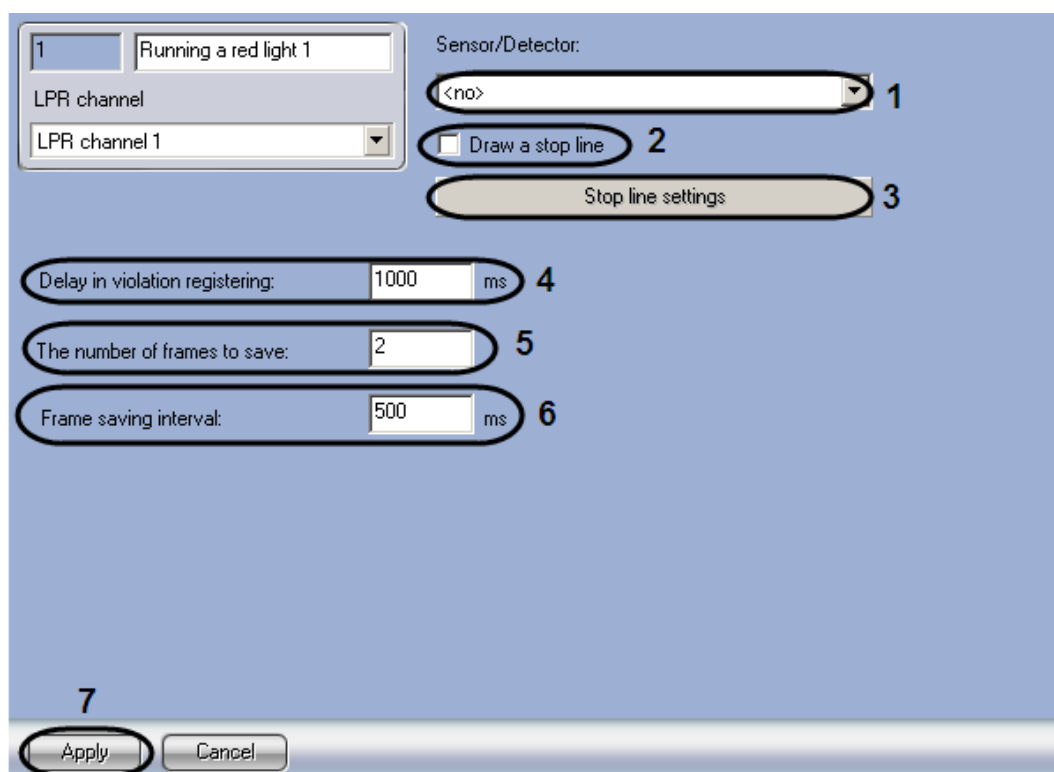

Fig. 7.2—31 Setting up the red light passing module
2. In «Sensor/Detector» dropdown list select «Sensor» object (see Intellect software package: Administrator's guide) by signal of which the light of traffic light is detected (see Fig. 7.2—31, 1).